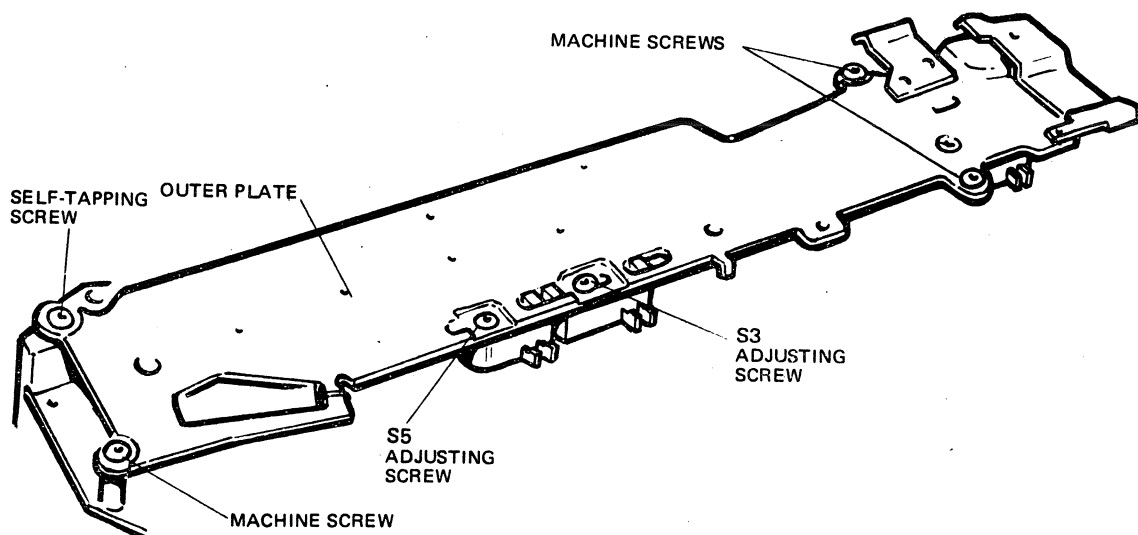

FIGURE 4-95 OUTER PLATE MOUNTING SCREWS
15. Refer to Figure 4-95. Remove the four outer plate (gear train assembly) mounting screws. Note that three are machine screws but the fourth is a self-tapping screw.